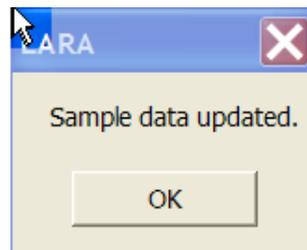

Figure 94. Confirmation
- (4). Make the needed changes to the bottom half and press save all changes. The following screen will appear (Figure 94).